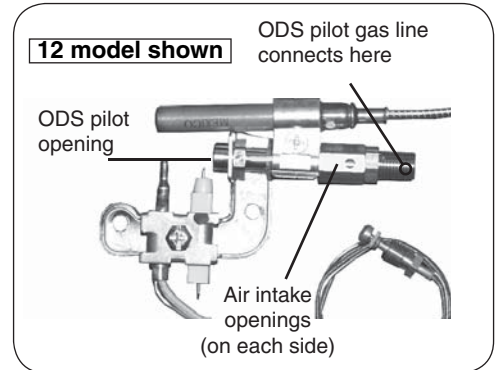

Fig. 38-1
1. Turn the burner system to the **OFF** position and allow it to cool. Inspect the ODS pilot area (see Fig. 38-1) for any visual contamination or debris (usually lint, hair, spider webs, or small insects). Lightly brush off all external surfaces while vacuuming loosened debris from the ODS pilot opening. **Be careful not to brush any foreign material into the ODS pilot opening.**
2. Clean out the air intake openings (see Fig. 38-1) by lightly brushing around the openings while vacuuming.
4. If the ODS pilot flame does not burn as indicated in the instructions, extinguish the ODS pilot by turning the valve to the full **OFF** position. Using a compressed air duster, insert the flexible nozzle through the air intake openings, ensuring that the nozzle is pointed toward the ODS pilot opening (see Fig. 38-1). Blow air through the intake openings to clear out any debris that may be in the system.
5. Relight the ODS pilot and inspect it to be sure it is burning as shown in the instructions. If not, extinguish the ODS pilot and **turn off the gas supply to the burner system.** Using an adjustable or a 1/4" wrench, disconnect the ODS pilot gas line (see Fig. 38-1) from the valve.